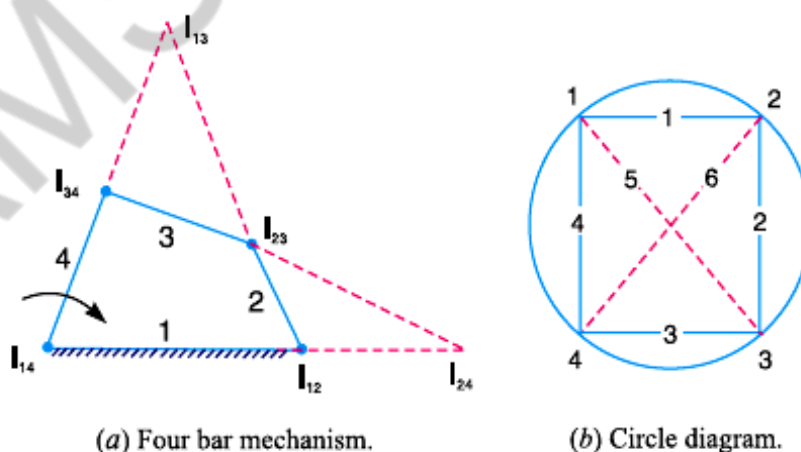

Fig. 6.8. Method of locating instantaneous centres.
Consider a pin jointed four bar mechanism as shown in Fig. 6.8 (a). The following procedure is adopted for locating instantaneous centres.
3. Locate the fixed and permanent instantaneous centres by inspection. In Fig. 6.8 (a),  $I_{12}$  and  $I_{14}$  are fixed instantaneous centres and  $I_{23}$  and  $I_{34}$  are permanent instantaneous centres.
4. Locate the remaining neither fixed nor permanent instantaneous centres (or secondary centres) by Kennedy's theorem. This is done by circle diagram as shown in Fig. 6.8 (b). Mark points on a circle equal to the number of links in a mechanism. In the present case, mark 1, 2, 3, and 4 on the circle.
5. Join the points by solid lines to show that these centres are already found. In the circle diagram [Fig. 6.8 (b)] these lines are 12, 23, 34 and 14 to indicate the centres  $I_{12}$ ,  $I_{23}$ ,  $I_{34}$  and  $I_{14}$ .
6. In order to find the other two instantaneous centres, join two such points that the line joining them forms two adjacent triangles in the circle diagram. The line which is responsible for completing two triangles, should be a common side to the two triangles. In Fig. 6.8 (b), join 1 and 3 to form the triangles 123 and 341 and the instantaneous centre  $I_{13}$  will lie on the intersection of  $I_{12}$  and  $I_{23}$  and  $I_{14}$  and  $I_{34}$ , produced if necessary, on the mechanism. Thus the instantaneous centre  $I_{13}$  is located. Join 1 and 3 by a dotted line on the circle diagram and mark number 5 on it. Similarly the instantaneous centre  $I_{24}$  will lie on the intersection of  $I_{12}$  and  $I_{14}$  and  $I_{23}$  and  $I_{34}$ , produced if necessary, on the mechanism. Thus  $I_{24}$  is located. Join 2 and 4 by a dotted line on the circle diagram and mark 6 on it. Hence all the six instantaneous centres are located.